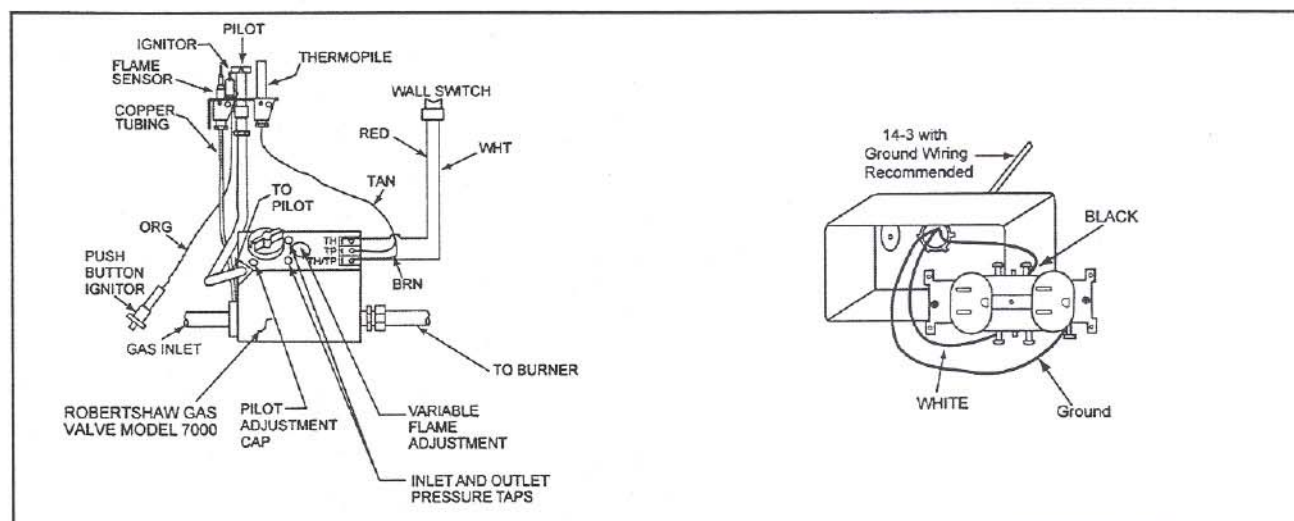

Figure 38 - Standing Pilot Ignition Wiring Diagram
- 1) **Appliance Requirements.** A wiring diagram is shown in Figure 38.